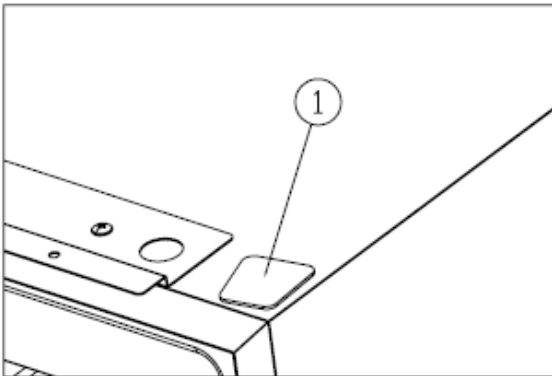

Figure 4
Install the germinal lid (1). [Figure 4]